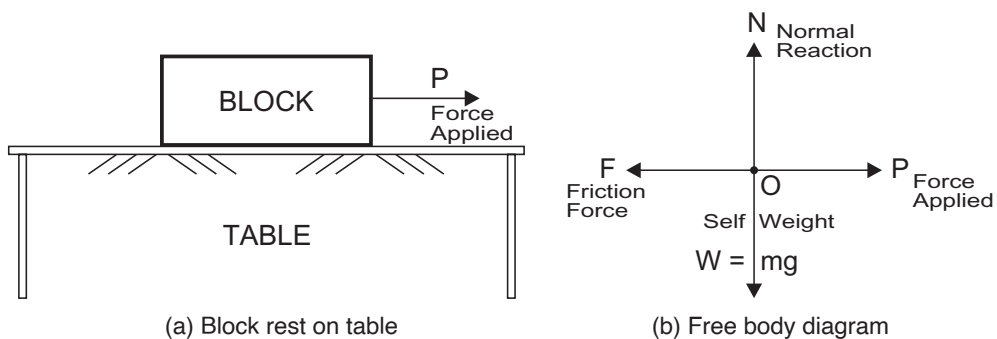

Fig. 3.1: Friction
Consider a block of weight W resting on a table. An external horizontal variable force P is apply on the block as shown in fig. 3.1(a). The block is in equilibrium and therefore, $\Sigma V = 0$ and the weight W of the block is resisted by normal reaction N offered by the top of table. $\therefore N = W$.
Now, try to move this block on the top of the table maintain contact surface of the block and top of the table. The rough surface of the table top will offer internal resistance to the motion. This resistance to the motion, which always opposes motion, is force of friction or simply friction, denoted by F in a free body diagram as shown in fig. 3.1(b). As per the condition of equilibrium $\Sigma H = 0$, this frictional force F should be equal to the applied external force P , when block just to get motion. $\therefore F = P$.
3.2.1 Equilibrium of a body on a horizontal plane with horizontal external force (Fig. 3.1)